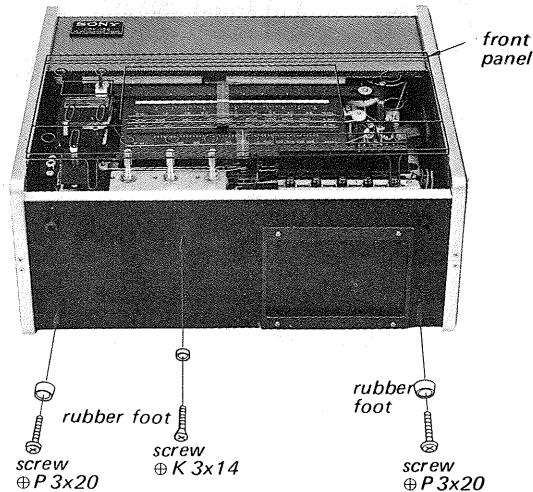

Fig. 2-4
- Now, the front panel is removable as shown in Fig. 2-4.
- Remove the three screws and two rubber foots as shown in Fig. 2-4.